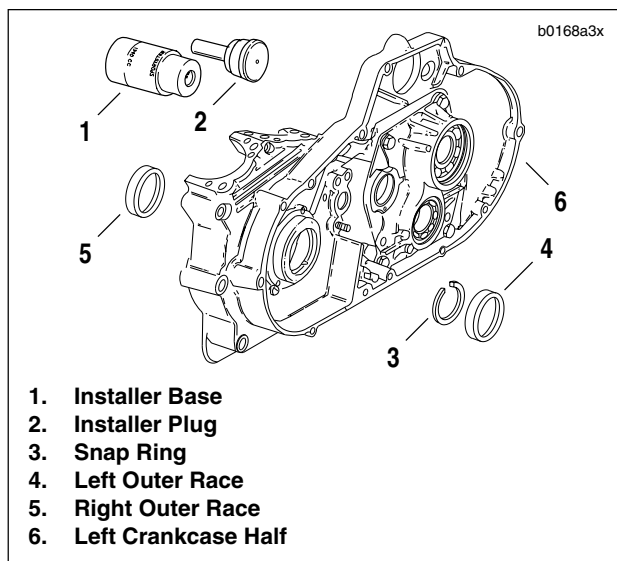

Figure 3-92. Installing Sprocket Shaft Bear Outer Races
See Figure 3-92. Use *SPROCKET SHAFT BEARING OUTER RACE INSTALLATION TOOL* (1, 2) (Part No. HD-39458) to install left and right outer races (4, 5) of sprocket shaft tapered roller bearings into left crankcase half (6). Always install left outer race (4) prior to installing right outer race (5) because the installer base (1) is usable only when you follow this sequence of race installation.
2. Insert "SPORTSTER" end of installer base (1) into inboard side of left crankcase half (6) bearing bore until base contacts installed retaining ring (3).
3. Position left outer race (4) over bearing bore on outboard side of left crankcase half (6).
4. Insert shaft of installer plug (2) through left outer race (4) and into installer base (1). Press race into bore until firmly seated against retaining ring (3).
5. Insert "SPORTSTER" end of installer base (1) into outboard side of left crankcase half (6) bearing bore until base contacts outboard surface of installed left outer race (4).
6. Position right outer race (5) over bearing bore on inboard side of left crankcase half (6).
7. Insert shaft of installer plug (2) through right outer race (5) and into installer base (1). Press race into bore until firmly seated against retaining ring (3).